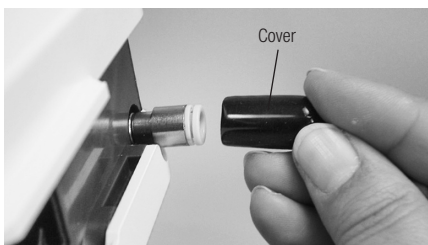

Fig.4
- 1) Remove the Cover from the Tap Water Connector. (Fig. 4)